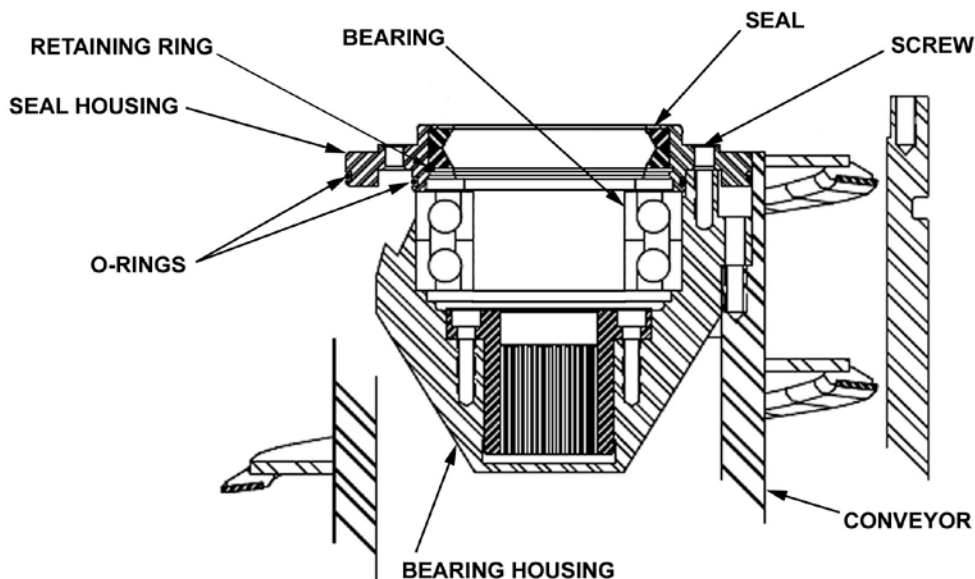

Figure 5-12 Liquid End Thrust Bearings Installation
3. Remove screws securing liquid end seal housing (Figure 5-12) to bearing housing, and remove seal housing. Remove and discard O-rings installed in external grooves of seal housing.
1. Insert new seal into liquid end seal housing (Figure 5-12), and secure with retaining ring. Install new O-rings in external grooves of seal housing.